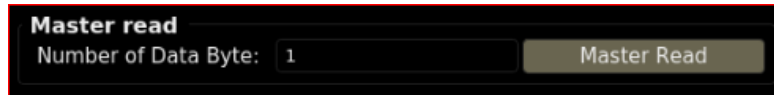

Figure 6.19. I²C Master Read
- Enter the number of bytes to read in the **Number of Data Byte** box as shown in Figure 6.19 and click **Master Read**. The results of the read transaction are shown in the transaction log table, and the data value read out can be found in the data column of the transaction log table.